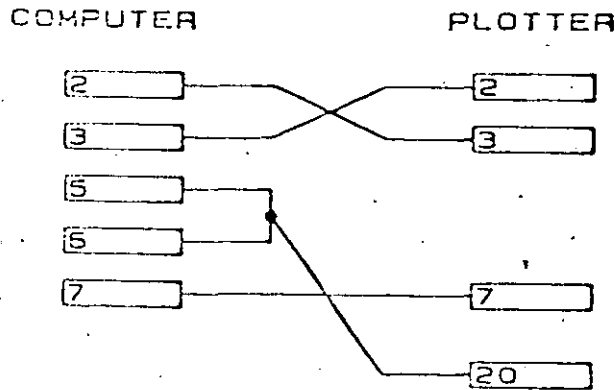
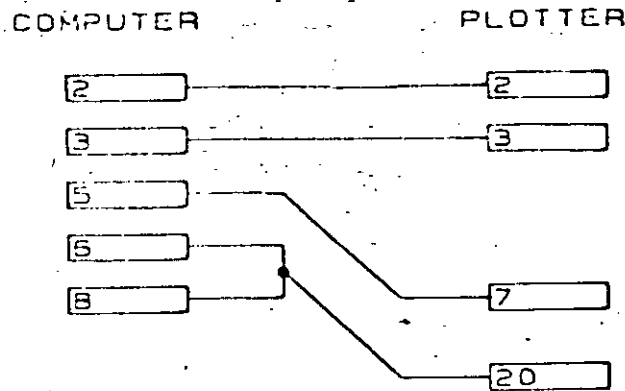

Figure 6-20. PC/XT 25-Pin Cable Wiring Diagram
Figure 6-21. PC AT 9-Pin Cable Wiring Diagram
Figure 6-20 shows a wiring diagram that is required for connecting a PC/XT (25 pin connector) to a plotter. Figure 6-21 shows a wiring diagram that is required for connecting a PC AT (9 pin connector) to a plotter.
1. Wire the cable as shown in Figures 6-20, 6-21, and 6-22 above. If your plotter works with another software package, and does not work with OrCAD, the first item to check is the wiring of your cable. Chances are, the other CAD packages only require the TXD and RXD signal lines. OrCAD requires additional connections.